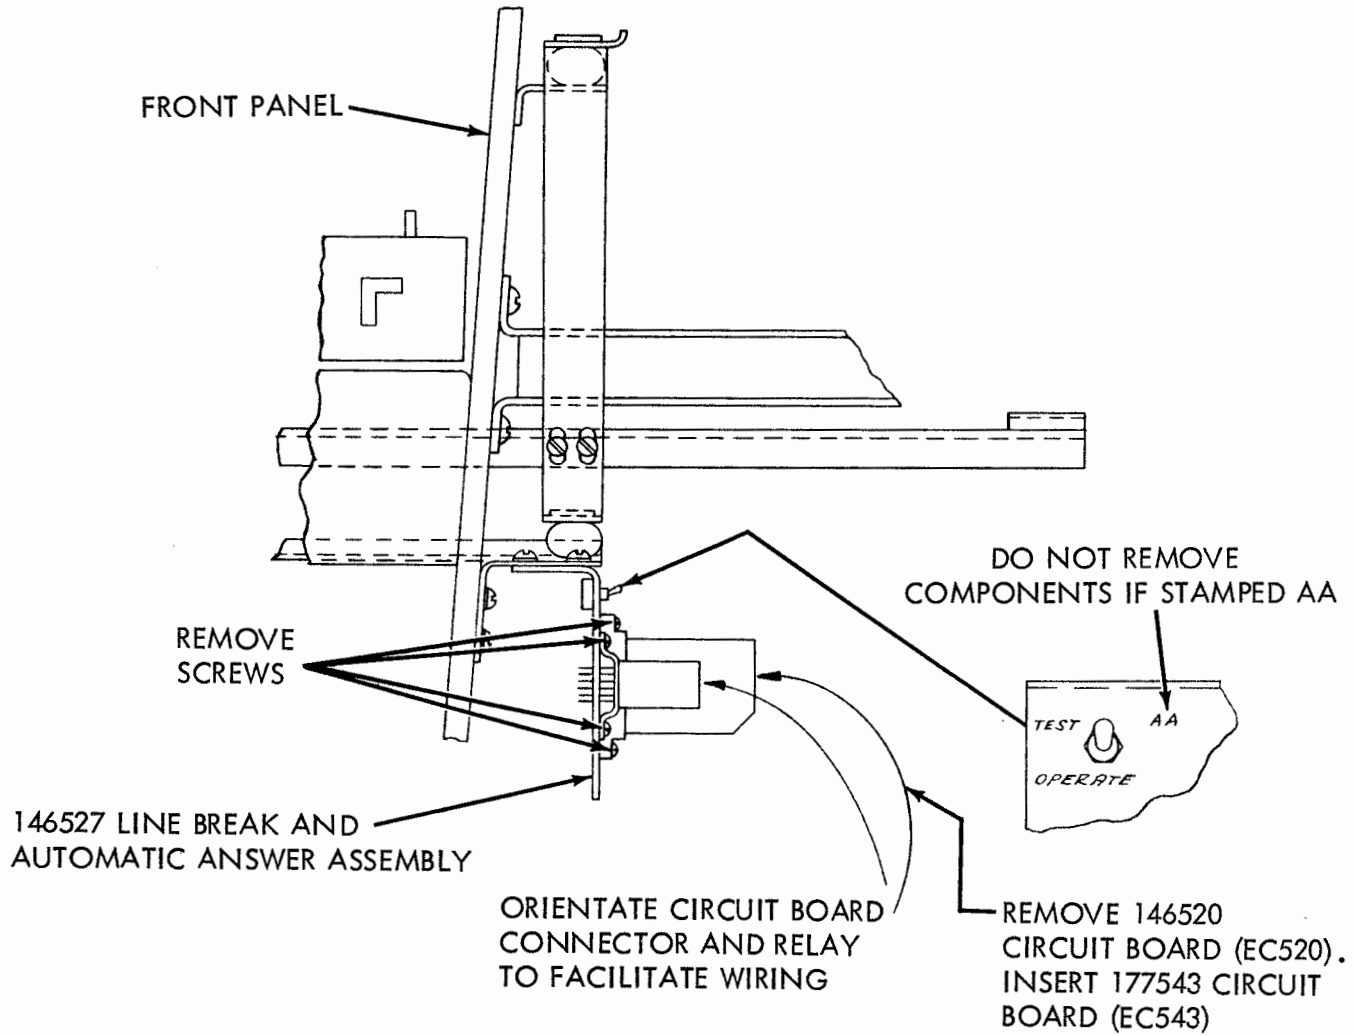

FIGURE 1.
2. INSTALLATION (FIGURES 1 AND 2)
a. If the 146527 Line Break and Automatic Answer Assembly is stamped "AA" adjacent to the test-operate switch, no wiring changes are required. The only modification required is that the 177543 Circuit Board (EC543) be substituted for the 146520 Circuit Board (EC520). See Figure 1. Proceed with test in accordance with Paragraph 3.
- (1) Unplug the power cord to the cabinet.
- (2) Pull the front panel forward so that the 146527 Assembly is accessible. See Figure 1.
- (3) Remove Plug "B" and the EC520 Circuit Board.
(4) Remove the two mounting screws that secure the B-C Relay Bracket to the assembly.
(5) Remove the two mounting screws, along with spacers and circuit board guides, that hold the circuit board connector in place.
(6) Orientate the combination B-C Relay and circuit board connector so that the terminals are accessible for removing and adding wires. Exercise care so as to prevent breakage of existing wiring.